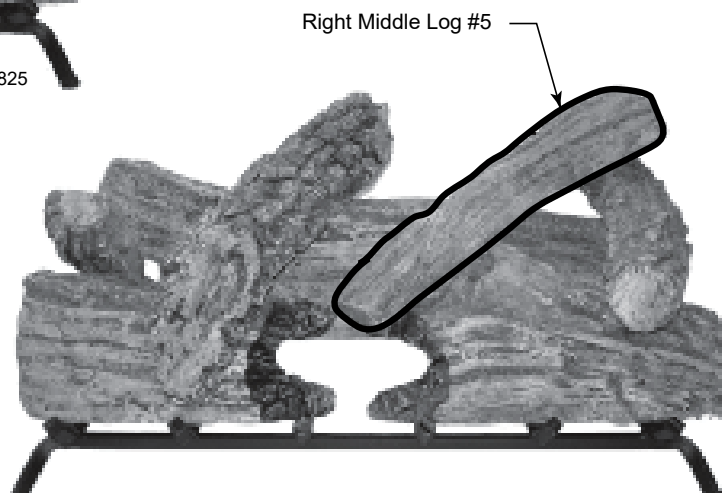

**Figure 93 -
6. Rest front end of right log #4 on right top of log #1b. The back end of log #4 rests to right hump on log #3. *Figure 93*
7. Rest front of left log #6 just left of the middle of log #1a and back end of log #6 just left of middle of log #3. *Figure 93*